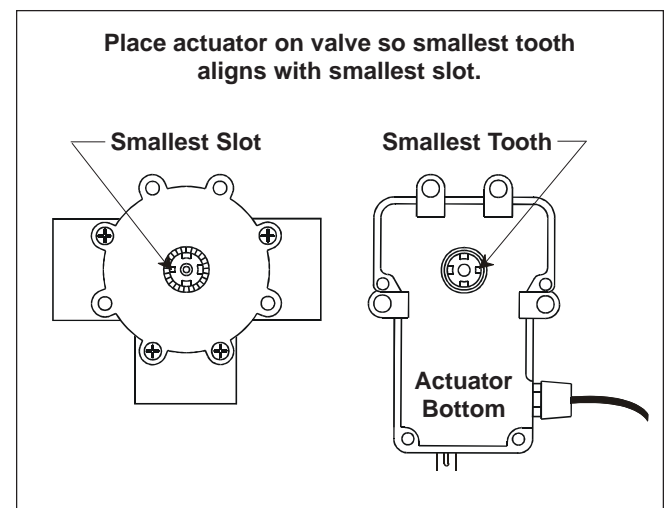

Figure 5. Actuator Mounting
3. Turn the actuator over so you can see into the brown actuator shaft. There are four (4) "teeth" on the inside of the shaft. Locate the "tooth" which is smaller than the others, align this "tooth" with the smallest "tooth" on the valve (see Fig. 5).